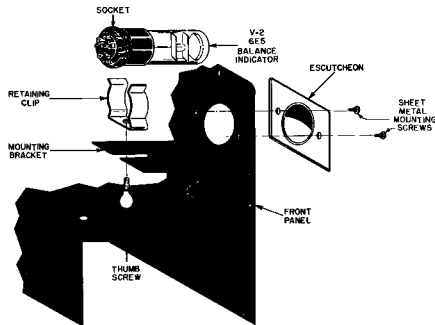

FIGURE 6. MOUNTING THE 6E5 (V-2)
- (X) Figure 6 shows how to mount the 6E5 (V-2). Place the socket on the 6E5 and mount it behind the large hole in the front panel. Do